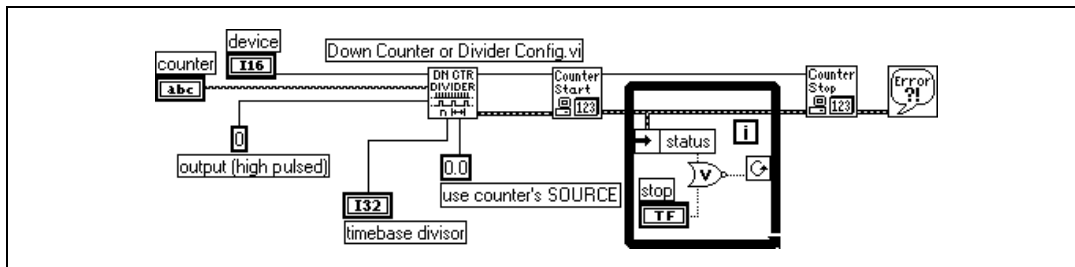

Figure 29-2. Programming a Single Divider for Frequency Division
Figure 29-2 shows an example of a signal divider. It uses the Intermediate counter VIs Down Counter or Divide Config, Counter Start, and Counter Stop.
The Down Counter or Divide Config VI configures the specified counter to divide the SOURCE signal by the **timebase divisor** value and output a signal when the counter reaches its terminal count (TC). Using Down Counter or Divide Config VI, you can configure the type of output to be pulse or toggled. The block diagram in Figure 29-2 outputs a high pulse lasting one cycle of the source signal once the counter reaches its TC. For more information on the different types of signal outputs, refer to the Down Counter or Divide Config VI description in Chapter 27, *Intermediate Counter VIs*, of the *LabVIEW Function and VI Reference Manual*, or the *LabVIEW Online Reference*, available by selecting **Help»Online Reference**. The previous block diagram counts the rising edges of the SOURCE signal, the default value of the **source edge** input. To locate the inputs and outputs on this VI, use the **Help** window. Open this window by choosing **Help»Show Help**.